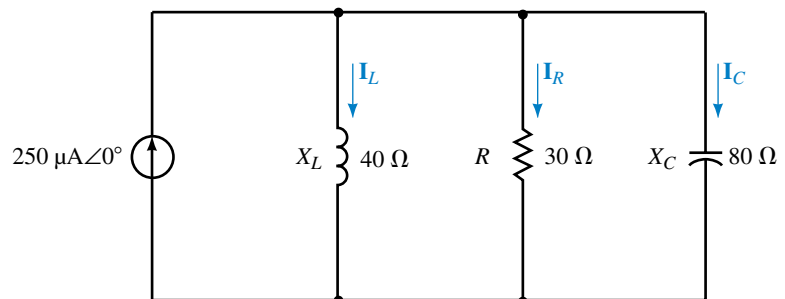

FIGURE 18–46
- Use the current divider rule to determine current through each branch in the circuit of Figure 18–46.
b. Verify that Kirchhoff's current law applies to the circuit of Figure 18–46.